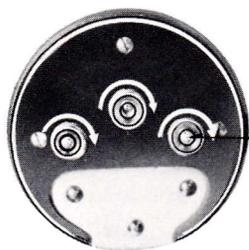

Fig. 14
- b. To regulate the numbers of row counter, you can change the number of three figures by turning 3 regulating knobs on the back of the row counter to either direction. But you can turn them to only one direction, when the number of lower figures is 0 or 9. (See Fig.14)